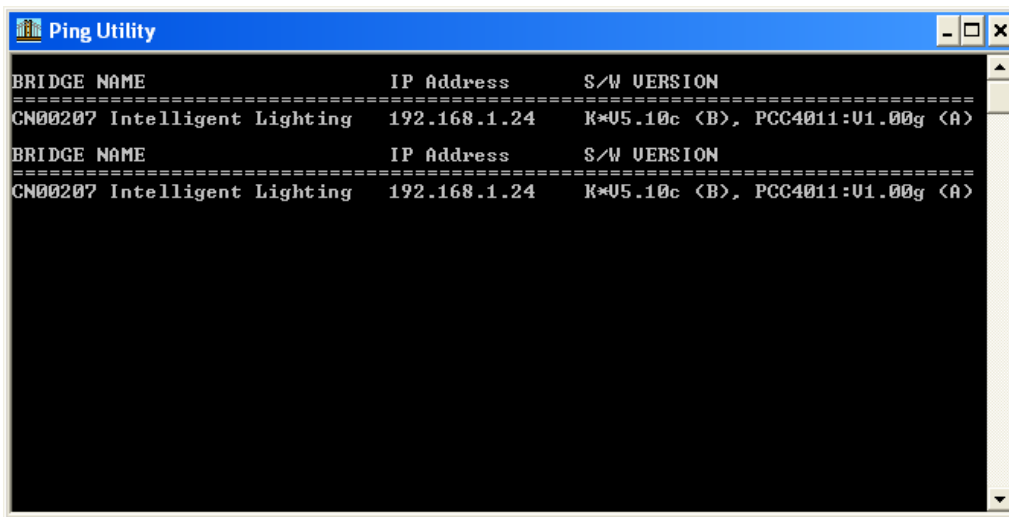

Figure 1 Ping utility screen
3. Run the ping utility (ruiping.exe) until it connects like shown in Figure 1. Typically it should only take a couple minutes to connect. This is to verify the connection to the device only.